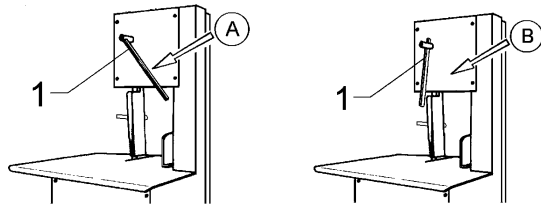

Fig. 7.6.1
7.6.1 - Blade tensioning setting (Fig. 7.6.1)
Blade tensioning could be settled mechanically moving knob "1". Rotate the knob in position "A" (Fig. 7.6.1) blade is tensioning. To unblock the blade rotate the knob in the position "B".
- Stretch the blade rotating the knob in position "A" (Fig. 7.6.1).